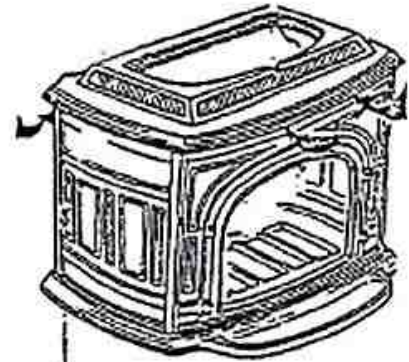

FIG. 4 HAMMER UPWARD TO LOOSEN TOP PLATE
- Tap upward around the edges of the Top Plate with the rubber mallet (Fig. 4). Lift the Top Plate off with any Tie Rods attached. Set aside the Top Plate for cleaning.